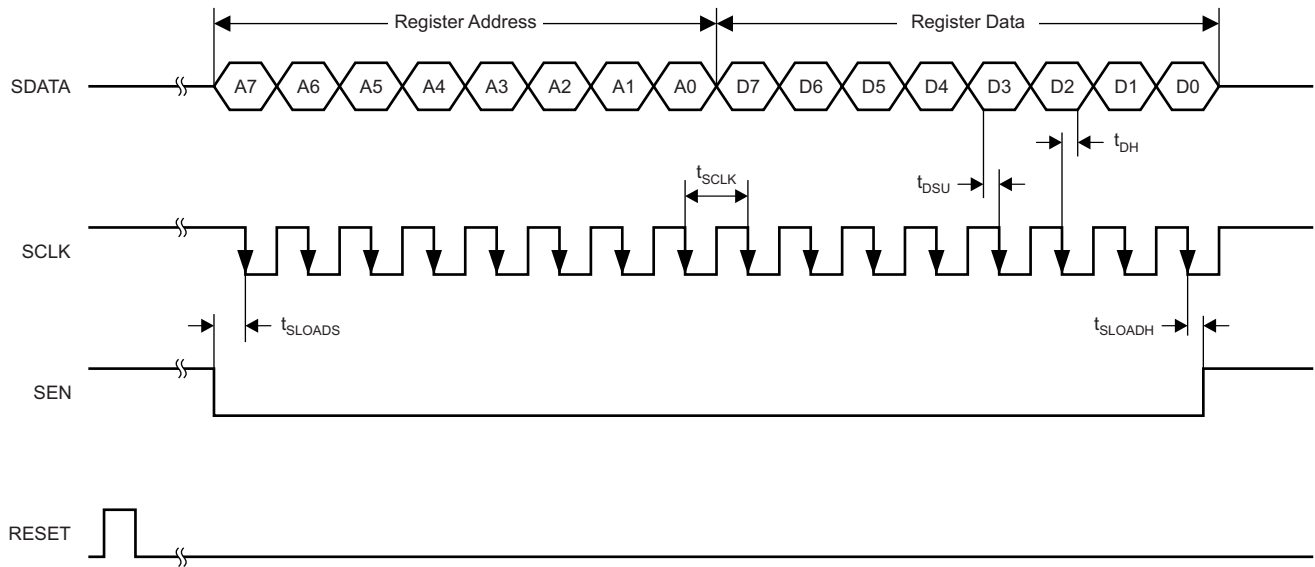

Figure 1. Serial Interface Timing
6.8 Timing Characteristics For Figure 1